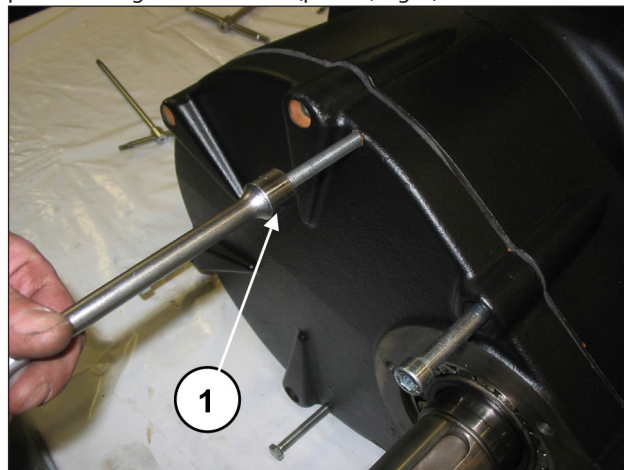
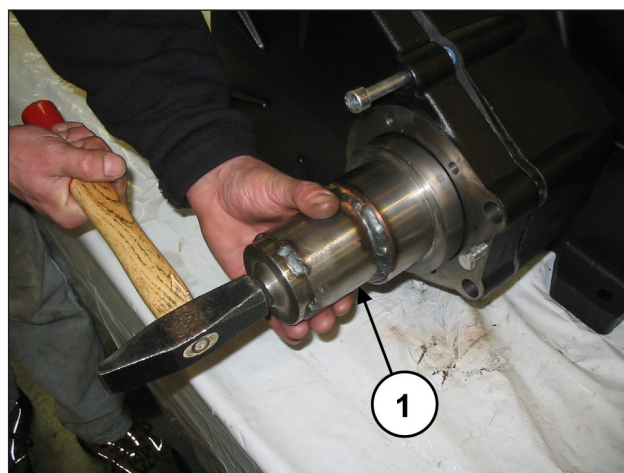

Fig. 8
Fig. 9
Screw in the 3 grub screws (pos. ①, Fig. 8) with the function of extractors and at the same time, using the special tool (code 27516700), beat on it so that the bearing remains on the pinion during cover removal (pos. ①, Fig. 9).